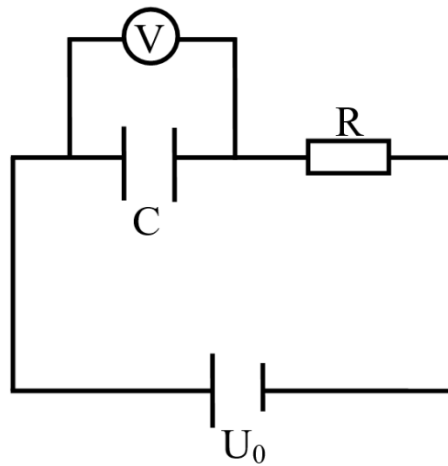

Fig. 34.2. Experimental circuit
1. Connect the power supply with the capacitor and resistant in series and the capacitor in parallel with the voltmeter (Fig. 34.2).